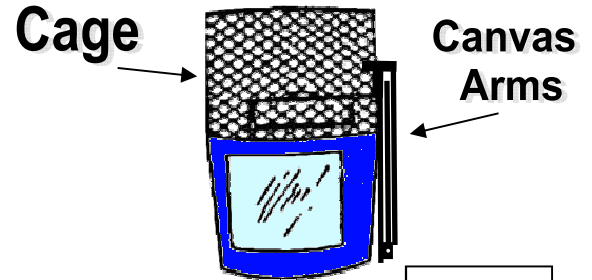

Figure 1
2. Remove cage from front of tank. Turn cage over and line the holes in the cage with the holes along the top of the tank. Drop a 1/4" carriage bolt through each hole. Then put on a flat washer, lock washer, and nut and tighten down. Start at one end of the cage and work your way around to the other end. (**See Figure 1.**)